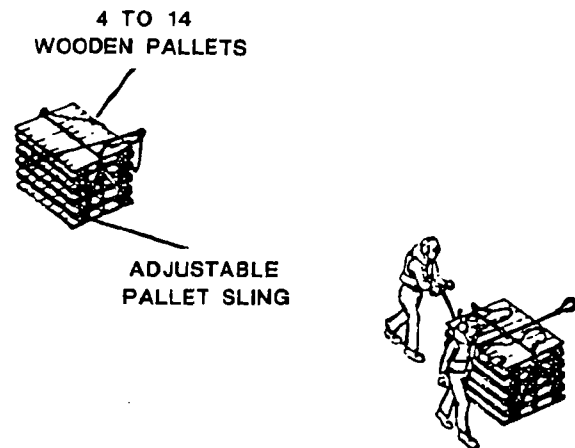

Figure 9-13. Stacking Pallets
- Stack pallets to assemble a load between 16 and 68 inches high. Four to 14 wooden pallets or six or more metal pallets may be stacked to make up the load (see Figure 9-13).